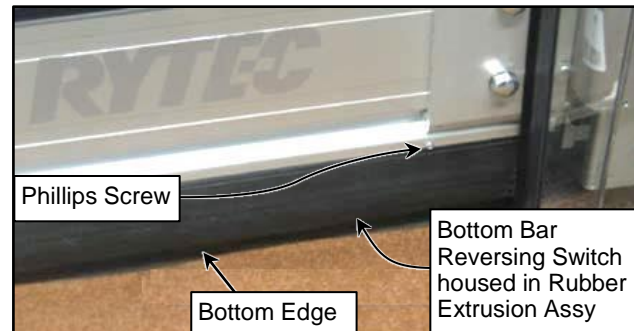

Figure 86
6. Remove and save the two small Phillips head screws used to secure the rubber reversing edge to the bottom door panel. Each screw is located about 4 in. from the ends of the panel, just above the rubber reversing edge. (See Figure 86)